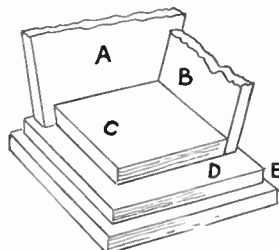

Fig. 3—How the holder is built up
(D). The base is made up of the two pieces (D) and (E); (D) measuring  $2\frac{1}{2}$  ins. by  $2\frac{1}{2}$  ins., and (E)  $3\frac{1}{2}$  ins. by  $2\frac{1}{2}$  ins. Cut these two pieces and glue them together, taking care that a  $\frac{1}{4}$  in. margin is kept at the sides and an  $\frac{1}{8}$  in. margin at back and front. Then on top of these two pieces a third piece (C) is glued, over which the completed 'box' must be glued, exactly as seen in the cut-away diagram Fig. 3.